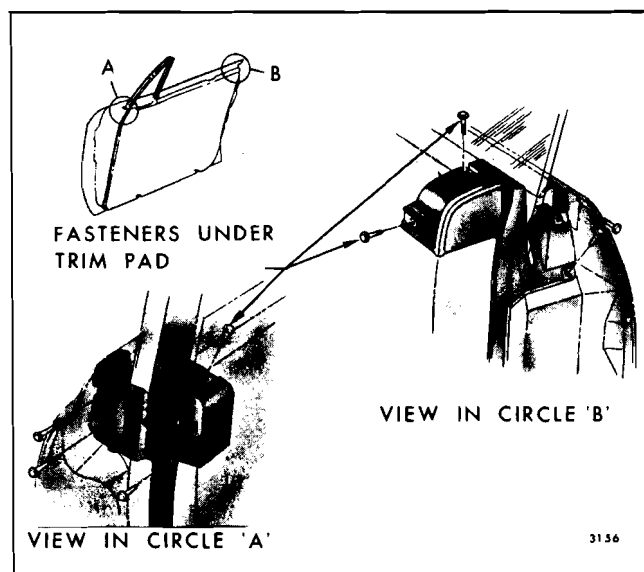

Fig. 6-3—Door Weatherstrip - Hardtop Styles
1. On all hardtop and convertible styles, remove door trim pad to gain access to weatherstrip fasteners hidden under trim assembly and remove fasteners (Fig. 6-3).